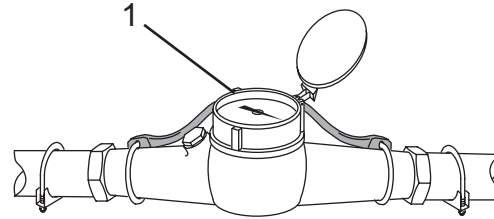

Figure 105
2. Reset the display by turning the collar (Figure 105, Item 1) counterclockwise until the pointer is aligned with "0".